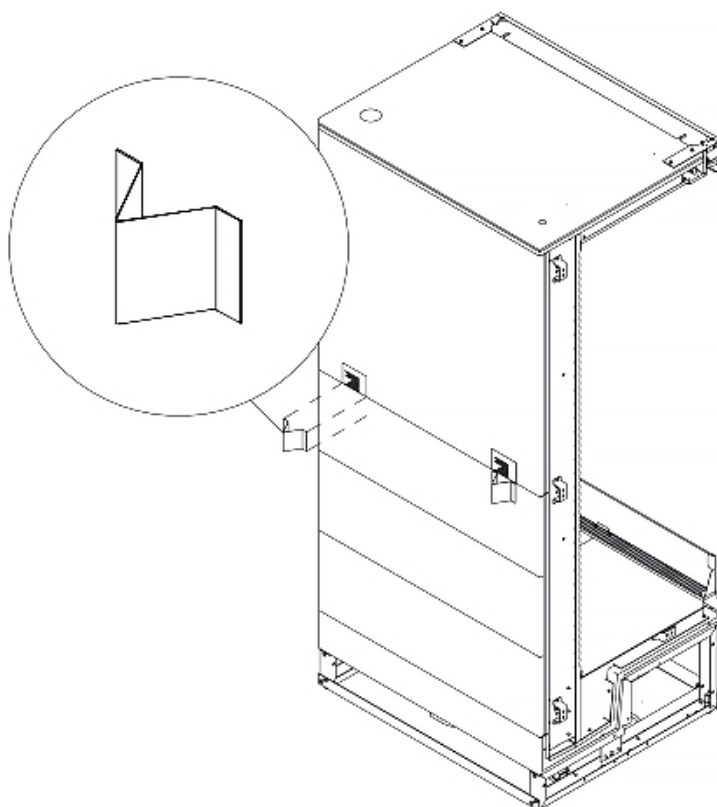

Fig. 14. Place of installation of limiters on the multideck
- the minimum required technological gap between the display cabinet and the wall is 50 mm. The placement of the multideck in a niche should provide free access to the control unit for maintenance purposes (Fig. 14);
- when installing the multideck, take into account the minimum and maximum size of the feet (Fig. 14);